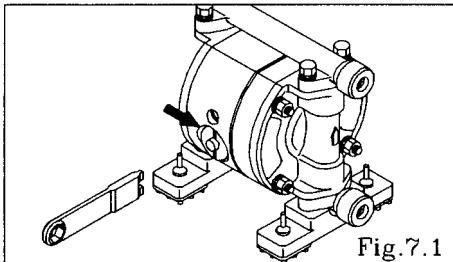

Fig.7.1
See [8.Exploded View] on after p.12. (Fig. 7.1, 7.2 and 7.3 show the NDP-5 FAT.)
- Remove the cap using the Accessory tool (special tool: Part No. 771132). [Fig.7.1]